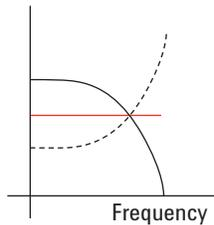

Figure 16. Plot showing the response generated by DFE (dashed) to correct for the non-flat frequency response of the channel (black)
To correct for this attenuation, we can apply a peaking filter via equalization. With DFE, we apply a peaking filter response as shown in the plot below (dashed line) such that the sum of the peaking filter response and the channel response yields a flat frequency spectrum (red line in plot in Figure 16).
However, with the DFE response, we are attenuating the low frequencies because we have shifted the entire FFE response down (Figure 16). This means the flat response we obtain in the end will be shifted down as well. You can use the gain factor (A) to shift the flat response back up to its correct value.
To correct for this attenuation, we can apply a peaking filter response (dashed line in Figure 16) such that the sum of the peaking filter response and the channel response yields a flat frequency spectrum (red line in Figure 16).